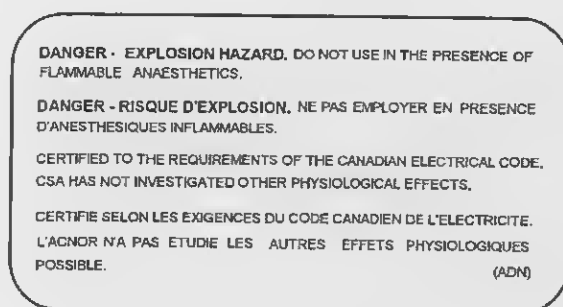

Figure 1-10. Hazard decal.
(2) A hazard decal (located on the back of the APS module) providing hazard information is depicted in figure 1-10.